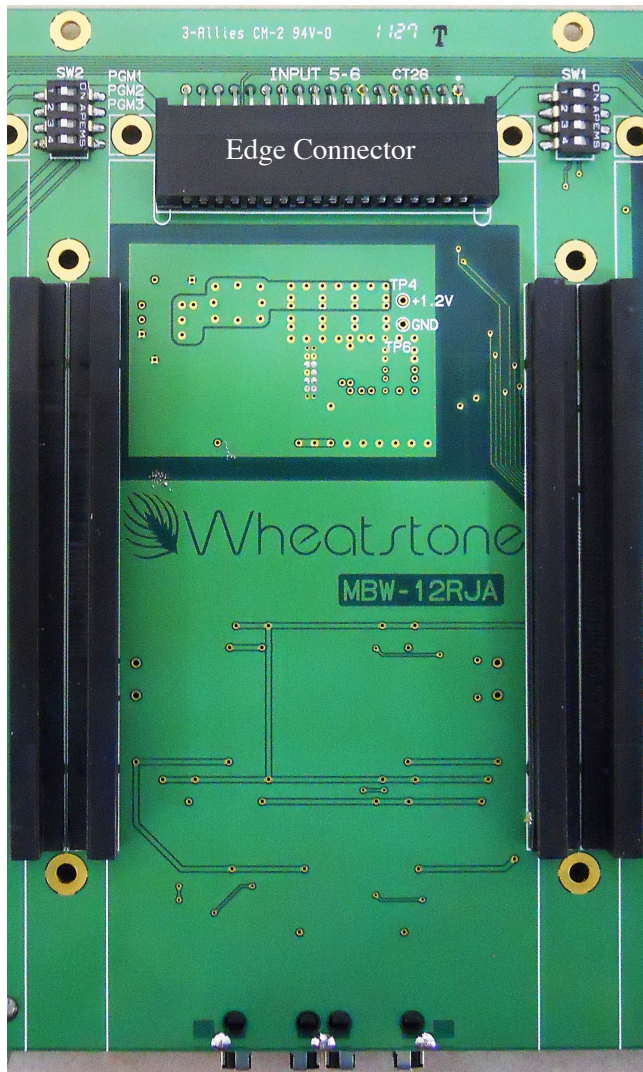

Figure 2. Motherboard Without Card
- Slide the daughter card in the appropriate opening in the rear of the console to plug in its edgcard fingers to the motherboard edge connector. (Figures 2 & 3).